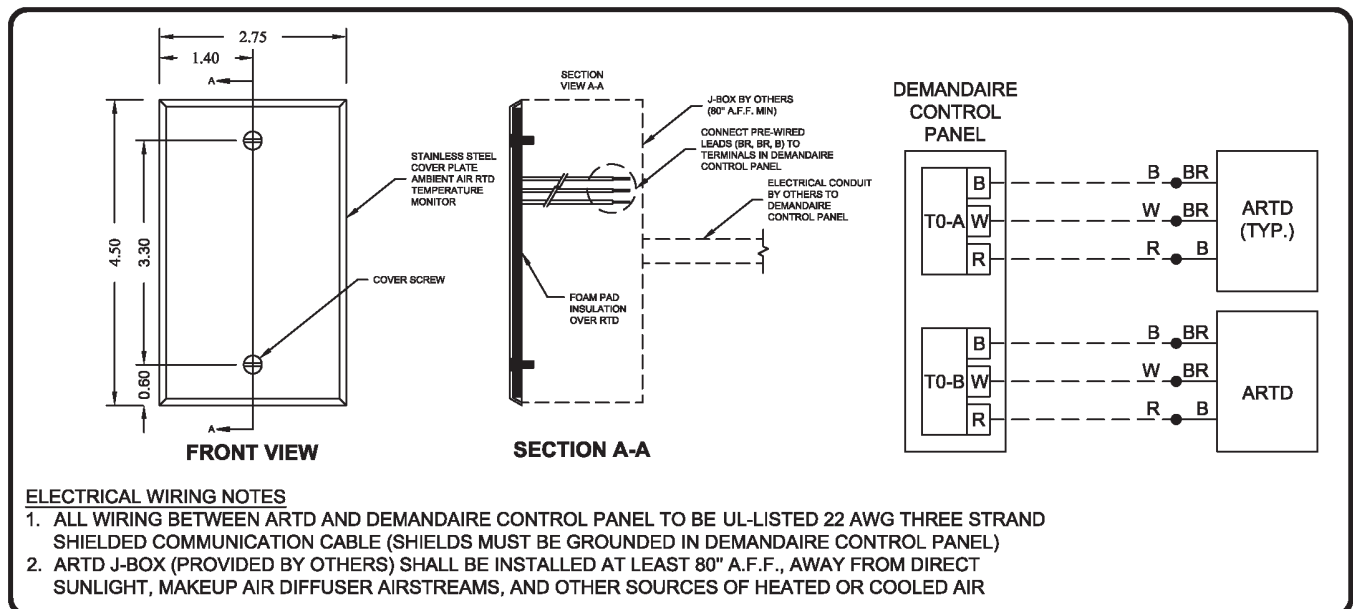

FIGURE 10: ARTD Installation Details
- b. The ARTD requires a 2x4 J-Box to which it may be directly mounted (*Figure 10*).